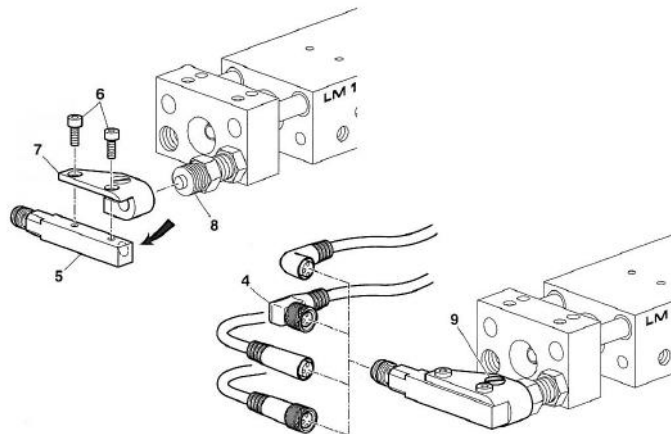

Fig. 13 Mounting initiator 8x8 mm
1. Screw the initiator (Fig. 13, 5) onto the holder (13, 7) with screws (6).
2. Push the holder (7) with initiator onto the stop screw (8) as far as it will go.
3. Clamp with screw (Fig. 13, 9).
4. Mount the connector (Fig. 13, 4).